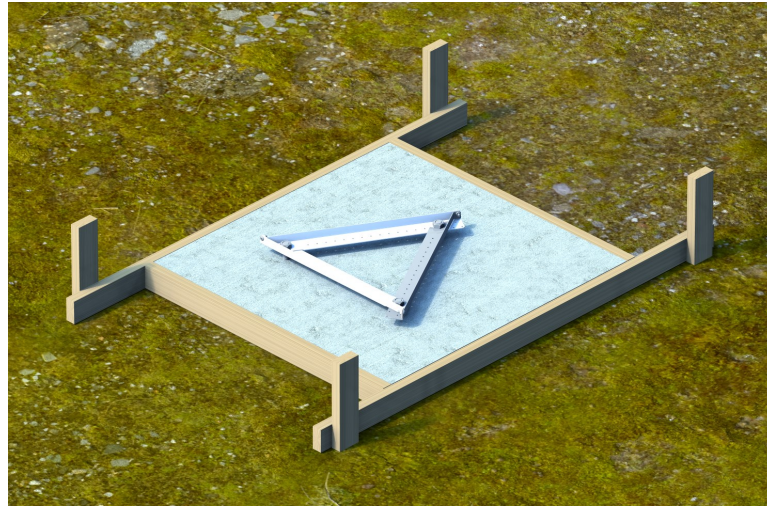

FIGURE 7-18. UTBASE template embedded in concrete
- Center the UTBASE template over the concrete and press the anchor bolts straight down into the concrete. Use a bouncing motion while working the anchor bolts into the concrete to help prevent any voids from forming around the anchor bolts. Continue pressing the anchor bolts into the concrete only until reaching the tape applied to the threads. See FIGURE 7-18 (p. 24).